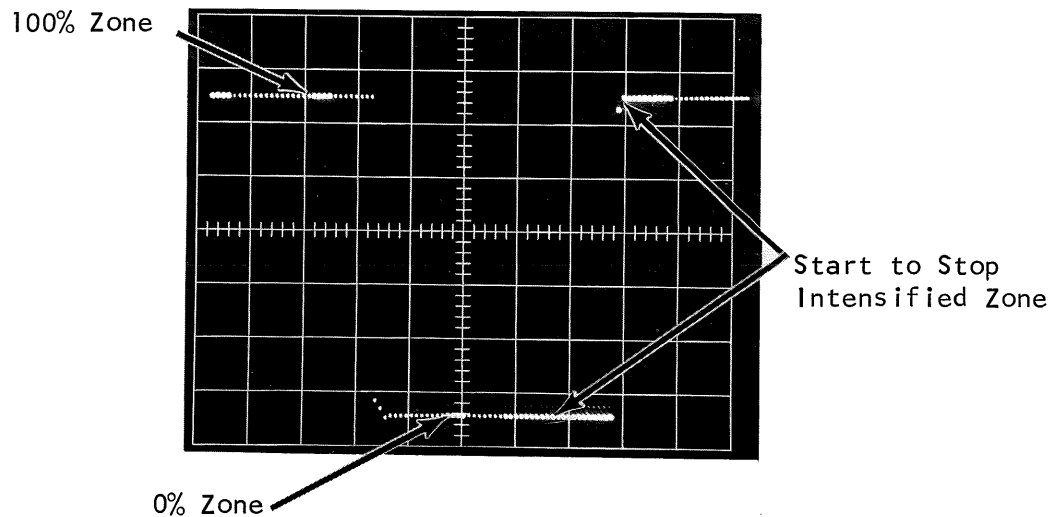

Figure 3-29
3. On the 6R1A, position the 0% and 100% zones appropriately on the display. Set the START and STOP to FIRST + SLOPE. Set the TIMING START and TIMING STOP controls to MANUAL. Set the MODE to TIME STOP (-) START. Set the MANUAL controls so the Intensified zone starts before the first positive (+) slope and so the Intensified zone stops after the first positive (+) slope. See Figure 3-29.